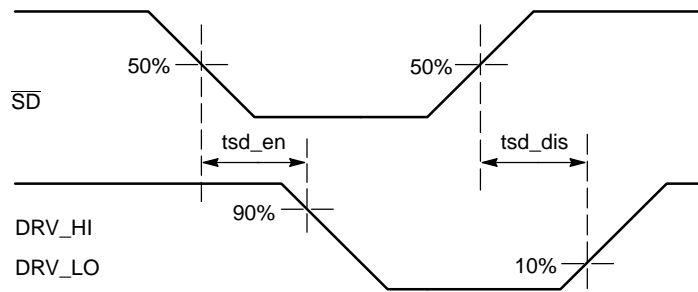

**Figure 5. Timing Definitions**
- Timing diagram definition see: Figure 4, Figure 5 and Figure 6.